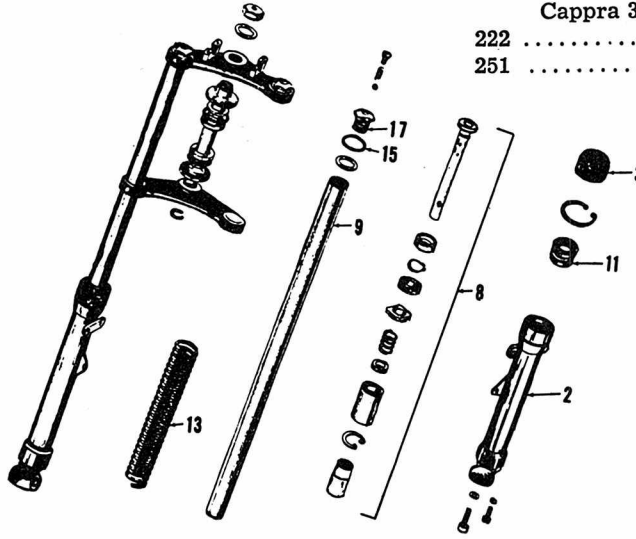

Fig. M9—Exploded view of front suspension system.
**SUSPENSION.** Refer to Fig. M9 for exploded view of front suspension system used on early models. Refer to Fig. M10 for later units. Front suspension can be drained by removing nuts (19) and cap (1). Each unit contains SAE 20 oil and is filled at plug (17). Refer to the following chart for fork leg capacities.